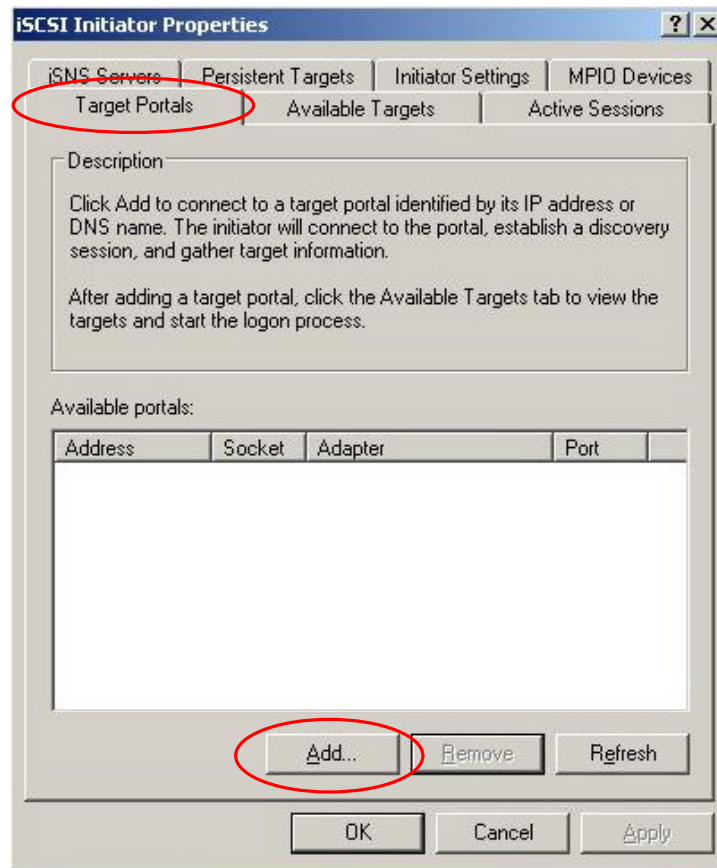

Figure A-2: Target Portal Page on the iSCSI Initiator Window
-  **Step 2.** When the program is opened, first click on the **Target Portals** tab and then click on the **Add** button to add new target portals. (See **Figure A-2**)